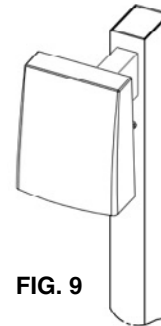

FIG. 9
3. Tighten enclosure screws to seal fixture. (FIG.9)